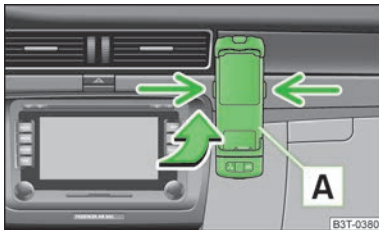

Fig. 130
- First of all push the adapter **A** in the direction of the arrow » Fig. 130 up to the stop into the mount. Then press the adapter slightly downwards, until it locks securely into position.
- Simultaneously press the locks on the mount » Fig. 130 and remove the adapter with the mobile phone.